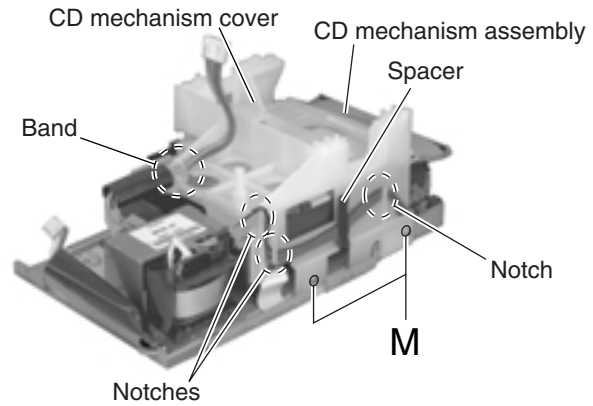

Fig.21
■ Removing the CD mechanism assembly (See Fig.21 to 23)